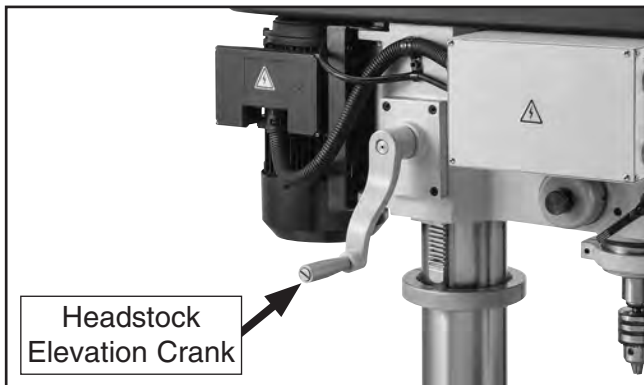

Figure 24. Location of headstock elevation crank.
3. Use headstock elevation crank (see **Figure 24**) to move head up or down as desired. Use your hands to rotate headstock on column as needed.
3. Loosen headstock lock nuts (see **Figure 23**) and lower head using headstock elevation crank (see **Figure 24**) until drill bit or cutter is approximately 1/8" above workpiece, then retighten headstock lock nuts.